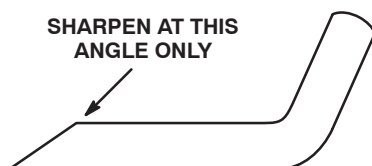

Figure 68
3. Examine cutting edges of all blades. Sharpen cutting edges that are dull or nicked. To assure sharpness, sharpen only the top side of the cutting edge while maintaining the original cutting angle (Fig. 68). If the same amount of metal is removed from both cutting edges, the blade will remain balanced.